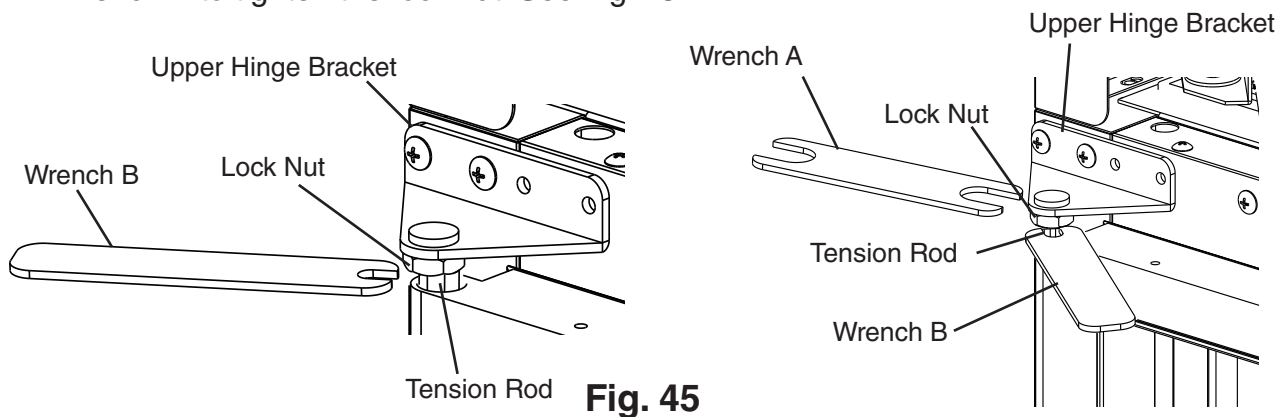

Fig. 45
- 21) Place wrench B on the tension rod and rotate counter-clockwise to add tension to the tension rod. Without releasing the pressure on wrench B and the tension rod, use wrench A to tighten the lock nut. See Fig. 45.